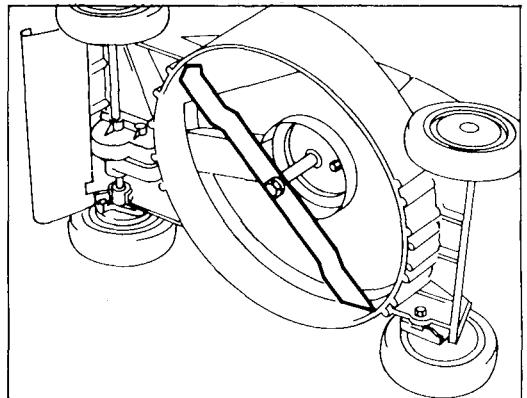

Figure 26
2. Tip mower on its left side (Fig. 26). Avoid rotating blade because starting problems may result.